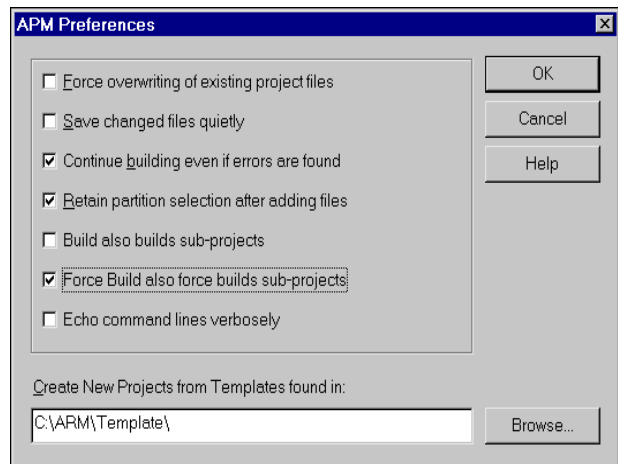

Figure 2-14 APM Preferences dialog
1. Select **APM...** from the **Tools** menu. The APM Preferences dialog is displayed (Figure 2-14).